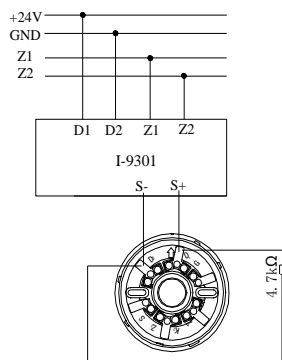

Fig. 3
- ◇ The module connects with C-9403 conventional sounder strobe. Its system connection is shown in Fig. 3. Working mode should be set to four-wire (1), volt output for S+, S- should connect with 4.7kΩ resistor in parallel (refer to Fig. 3).